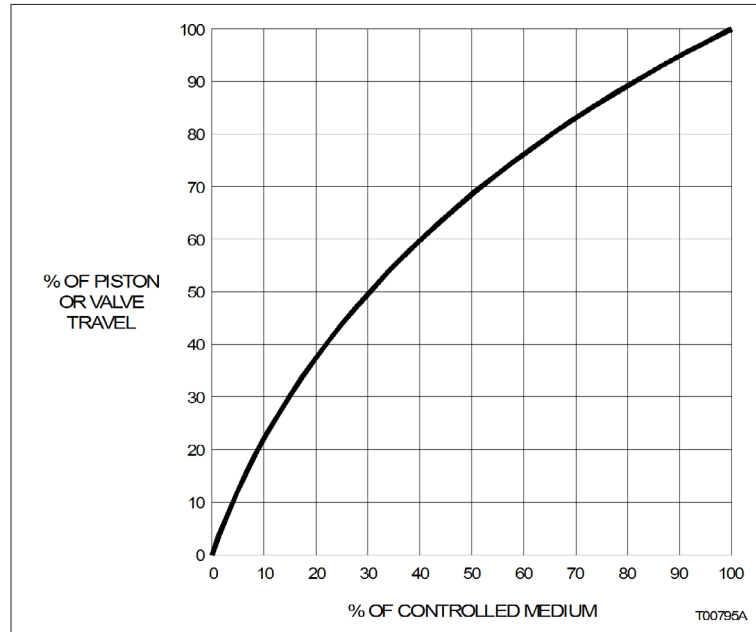
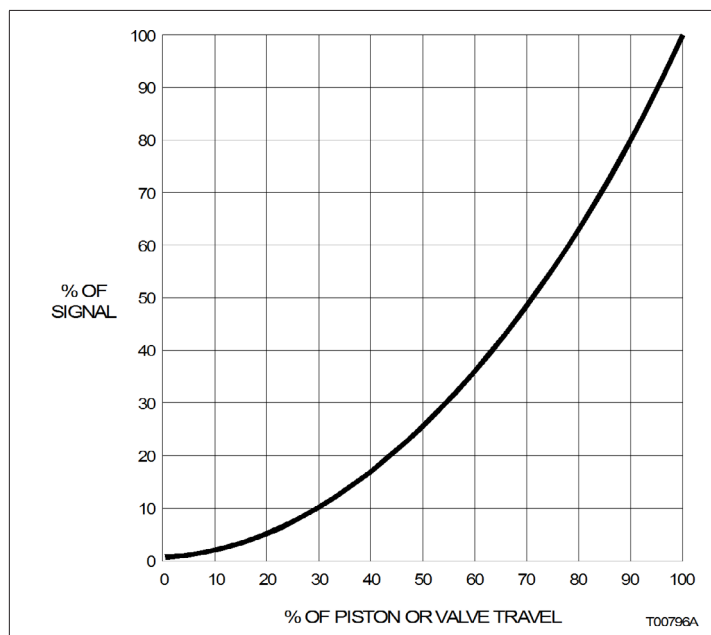

Figure C-4. Regulated Device Characteristics
Figure C-6. Cam Characteristics
1. With the B (linear) cam in place, determine and plot the actual controlled medium versus piston (or valve) position characteristic by manually adjusting valve position and measuring the controlled medium (Fig. C-4).
3. Using values determined in Steps 1 and 2, plot a curve for the exact control signal versus piston (or valve) characteristic that will produce the results of Figure C-6 from a cylinder or actuator that performs as shown in Figure C-4. In the examples shown, the required curve is a mirror image of the Step 1 curve taken about the Step 2 curve (Fig. C-6).